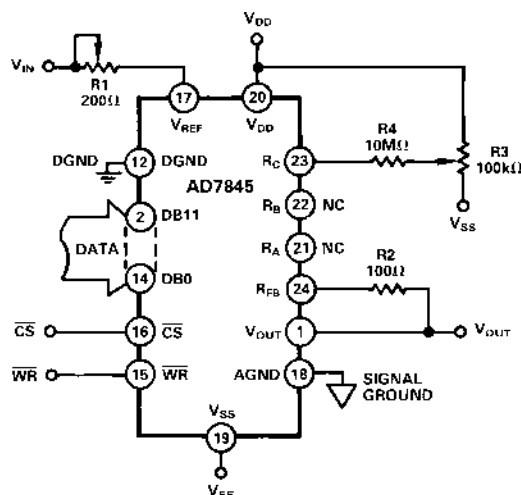

Figure 13. Unipolar Binary Operation
Gain error is a measure of the output error between an ideal DAC and the actual device output with all 1s loaded after offset error has been adjusted out. Gain error is adjustable to zero with an external potentiometer. See Figure 13.
Figure 13 shows the AD7845 connected for unipolar binary operation. When  $V_{IN}$  is an ac signal, the circuit performs 2-quadrant multiplication. The code table for Figure 13 is given in Table I.
### OFFSET AND GAIN ADJUSTMENT FOR FIGURE 13
**Temperature Coefficients:** The gain temperature coefficient of the AD7845 has a maximum value of 5 ppm/°C. This corresponds to worst case gain shift of 2 LSBs over a 100°C temperature range. When trim resistors  $R_1$  and  $R_2$  in Figure 13 are used to adjust full-scale range, the temperature coefficient of  $R_1$  and  $R_2$  must be taken into account. The offset temperature coefficient is 5 ppm of FSR/°C maximum. This corresponds to a worst case offset shift of 2 LSBs over a 100°C temperature range.